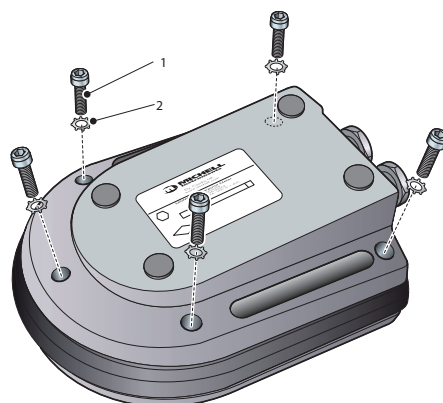

Figure 1 Remove Case-Securing Bolts
To gain access to the internal sensor and the battery housing, proceed as follows (refer to *Figure 1*).
4. Using an Allen key, sequentially remove the five cap screws (1) and washers (2) (see *Figure 1*).